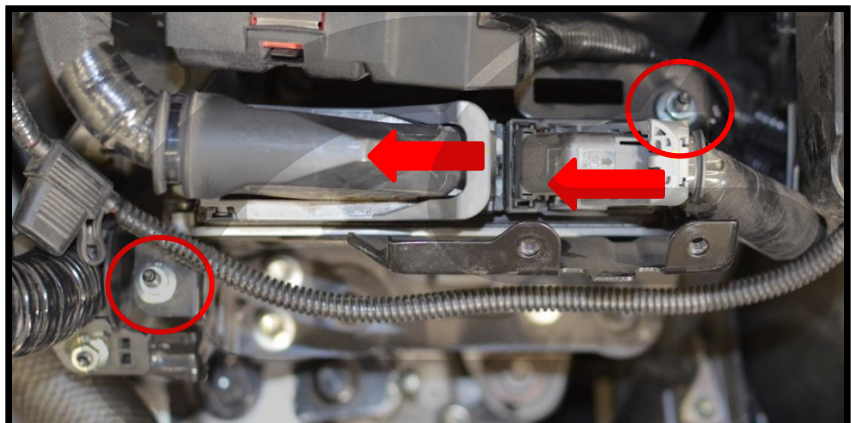

Figure 2c
- d) **Remove the ECU wiring harness connectors.** Rotate the light grey lever in the direction of the **red arrows** in **Figure 2c**.
- e) **Remove the two 10mm flange nuts holding the ECU.** Shown with the **red circles** in **Figure 2c**.